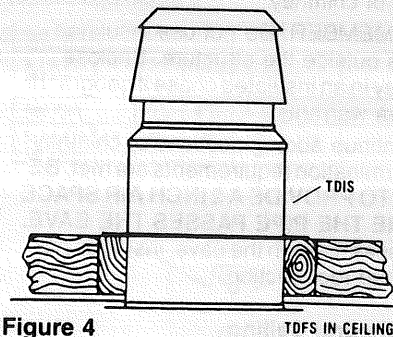

**Figure 3**
□ If single wall connector pipe is used below this support, it must slip **over** the inner pipe of the bottom chimney section. (Figure 3) When using connector Pipe, a TDPA pipe adapter must be used to accomplish the connection. The TDPA must be installed on the bottom chimney section before adding the cone collar.